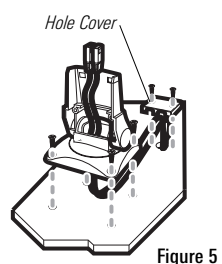
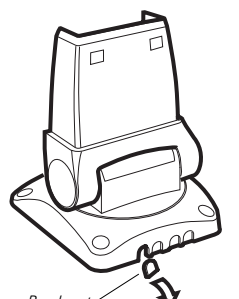

Figure 5
Figure 6
- 1b. If the cables cannot be routed directly beneath the mounting bracket, mark and drill a 1" hole that will allow you to run the cables close to the bracket. Pass the cables through the 1" hole, through the mounting base, and out of the top of the mounting bracket (Figure 5). Using needle-nose pliers, break out the tabs on the rear of the mounting base (Figure 6). Place the hole cover over the mounting surface hole, then use it to mark the position of the two mounting screws. Remove the Hole Cover, drill the two mounting holes using a 9/64" (3.5 mm) bit, fill them with marine-grade silicone, then replace the Hole Cover and insert the #8 Phillips countersink wood screws. **Hand-tighten only!**